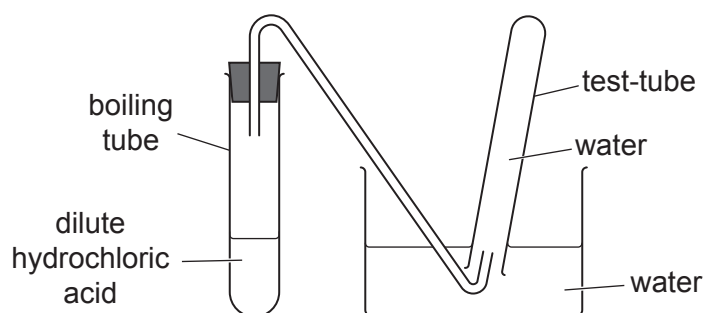

Fig. 4.1
- (vii) boiling tube (large test-tube) (approximately 150 mm × 25 mm) and a means to support it (see Fig. 4.1)
- (viii) test-tube (approximately 125 mm × 16 mm) (see Fig. 4.1)
- (ix) delivery tube and stopper (see Fig. 4.1)
- (x) large container, needs to be large enough for collecting gas (see Fig. 4.1)